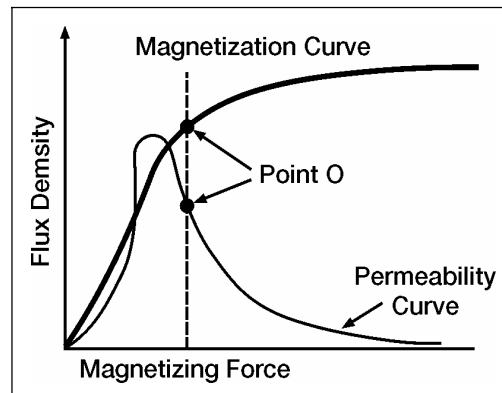
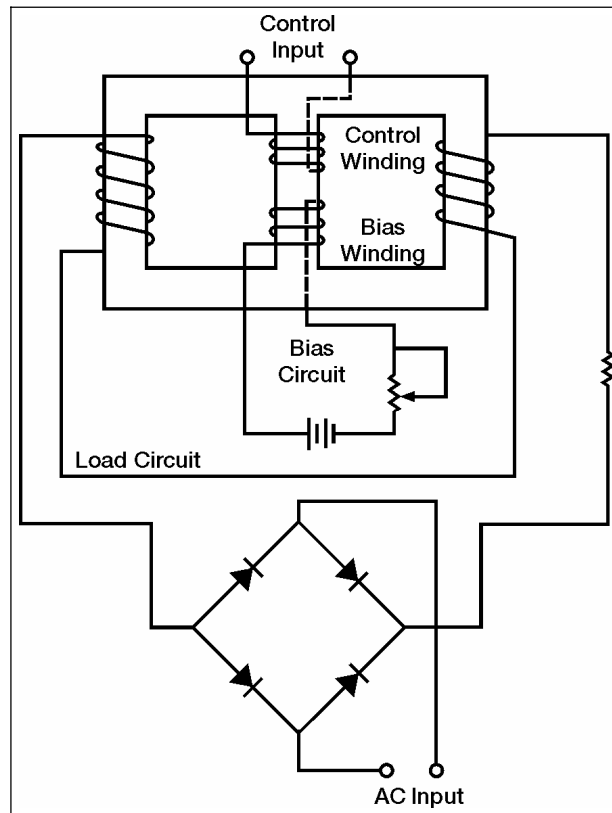

Figure 7-31. Magnetization and Permeability Curves With Operating Point
Figure 7-37. Full-wave Magnetic Amplifier With Bias Winding
7-117. You now have seen the basic operation of a saturable-core reactor. There is one more area to discuss before moving on to the circuitry of a magnetic amplifier. There is a point upon the magnetization curve where the saturable-core reactor should be operated. The ideal operating point is the place in which a small increase in control current will cause a large increase in output power and a small decrease in control current will cause a large decrease in output power. This point is on the flattest portion of the permeability curve (after its peak). Figure 7-31 shows the magnetization and permeability curves for a saturable-core reactor with the ideal operating point (point “0”) indicated. Notice point “0” on the magnetization curve. The portion of the magnetization curve where point “0” is located is called the KNEE OF THE CURVE. The knee of the curve is the point of maximum curvature. It is called the “knee” because it looks like the knee of a leg that is bent. Saturable-core reactors and magnetic amplifiers should be operated on the knee of the magnetization curve.
7-128. So far the control circuit of the magnetic amplifier has only been shown with DC applied to it. Magnetic-amplifier control circuits should accept AC input signals as well as DC input signals. As shown earlier in Figure 7-31, a saturable-core reactor has an ideal operating point. Some DC must always be applied to bring the saturable core to that operating point. This DC is called BIAS. The most effective way to apply bias to the saturable core and also allow AC input signals to control the magnetic amplifier is to use a bias winding. Figure 7-37 shows a full-wave magnetic amplifier with a bias winding.
7-129. Figure 7-37 shows the circuit where the bias circuit is adjusted to set the saturable-core reactor at the ideal operating point. Input signals, represented by the AC source symbol, are applied to the control input. The true power of the load circuit is controlled by the control input signal (AC).